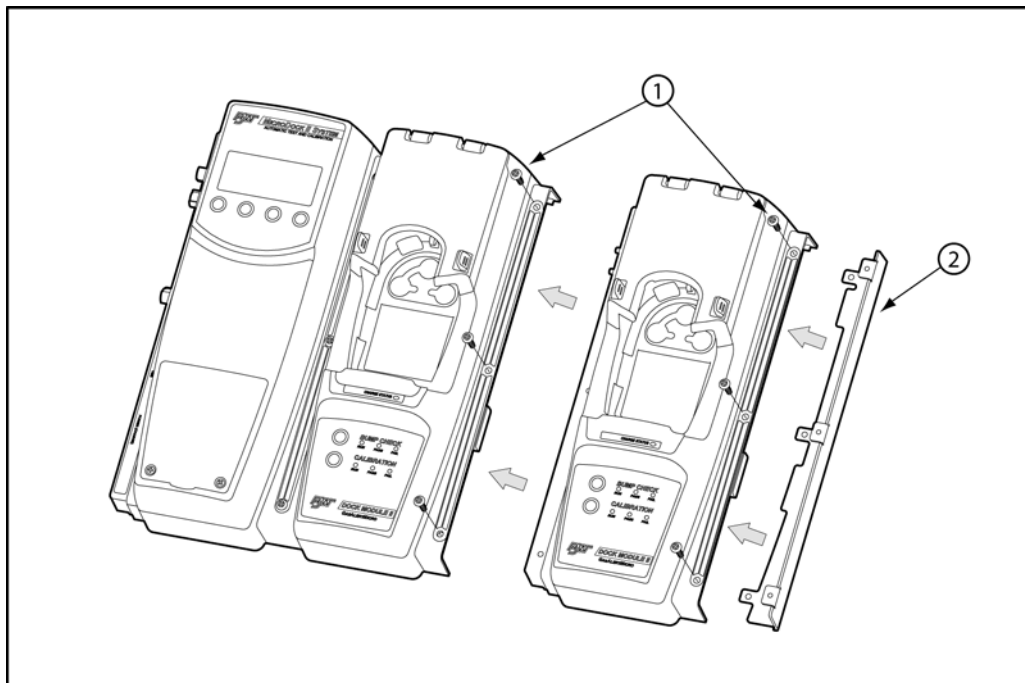
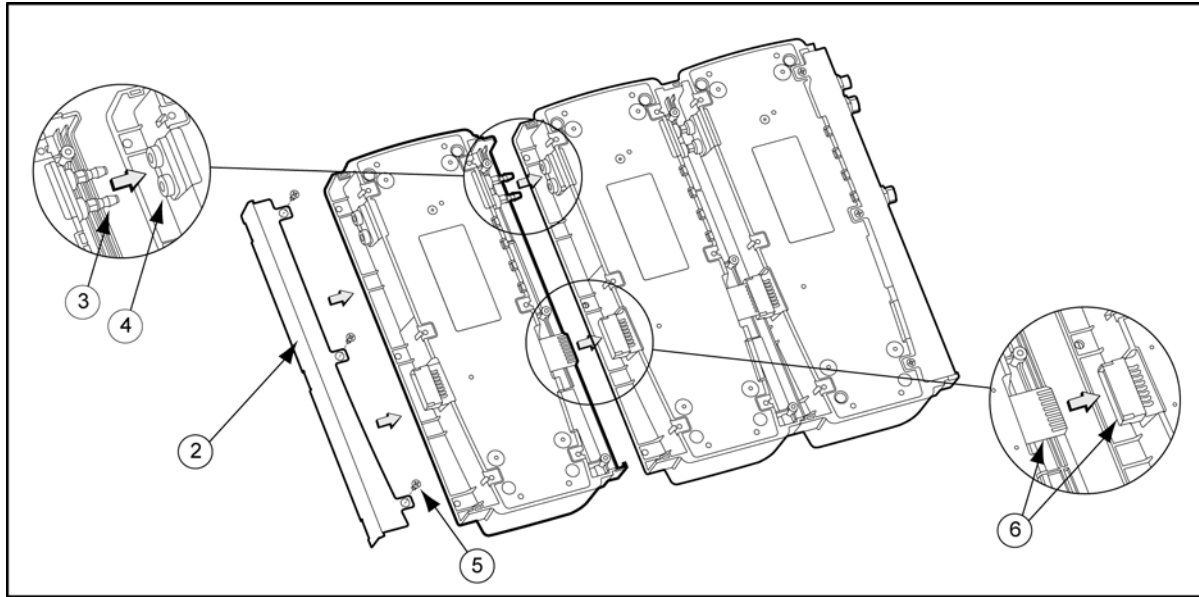
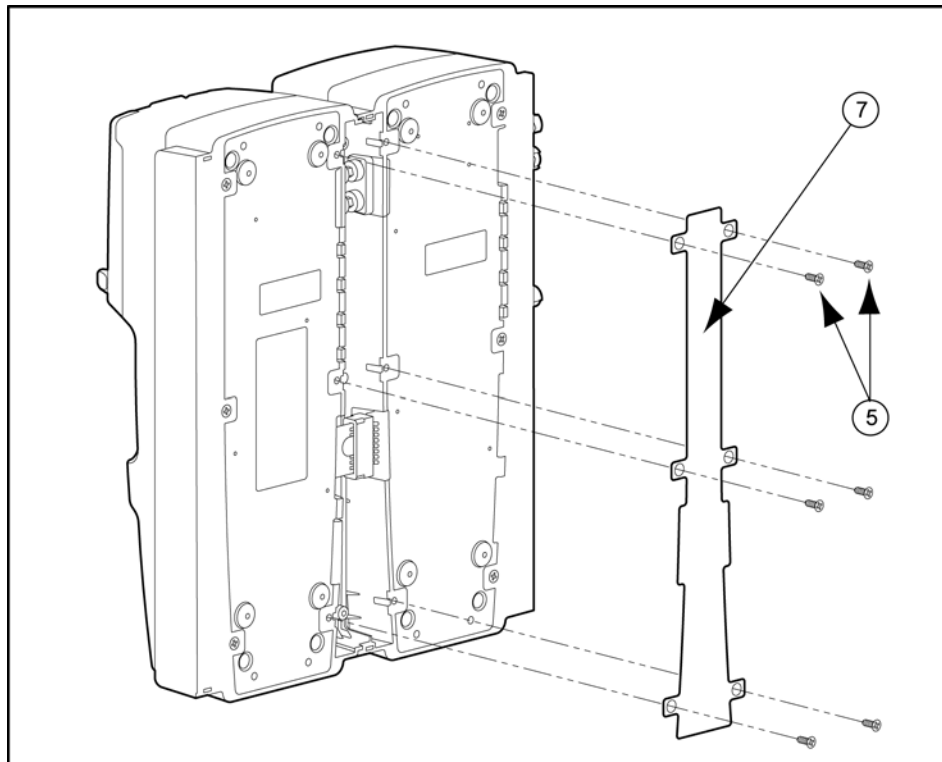

Figure 11. Adding Another Docking Module (Front View)
Figure 12. Adding Another Docking Module (Back View)
Figure 13. Attaching Back Cover Plate (Back View)
To add another docking module, refer to Table 12, and Table 13, Figure 11, Figure 12, and Figure 13, and complete the following procedures:
19. After all of the modules have been added, attach the end plate. Refer to Figure 11.
20. Fasten the bottom cover plate to the space between the two docking modules using six Phillips flat-head screws. Refer to Figure 13.